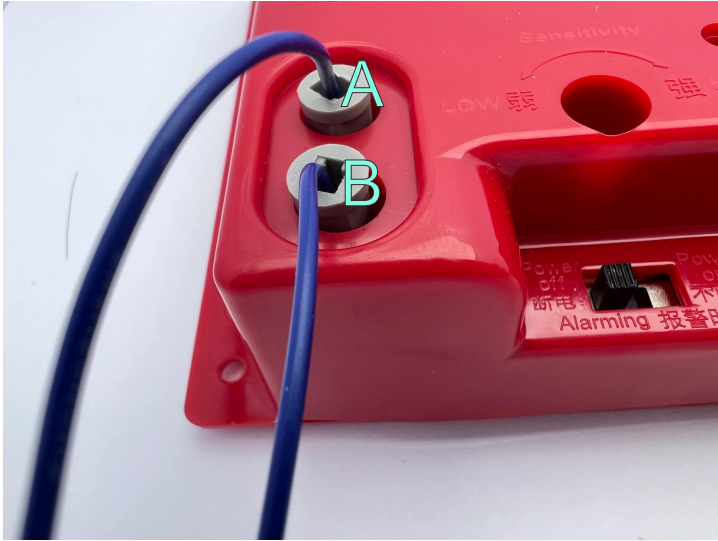

Figure 1
- a. Connect the blue anti-radio interference antenna with a dual socket to RF jacks A and B (as shown in Figure 1), or use a single-ended input, but be sure to connect to jack A. ;